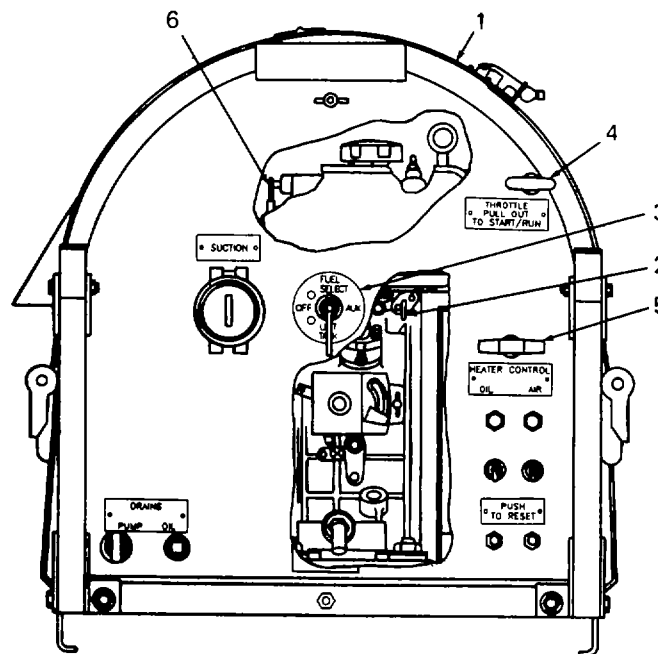

Figure 2-4. Starting Procedures
- a. *Starting.* Refer to Figure 2-4.
- (8) Hold recoil starting handle (5) firmly and pull out the handle briskly. Engine will start and go to maximum operating speed. If engine does not start on first pull, repeat steps (6), (7), and (8).
- (9) After 3 minutes, the pumping unit will start pumping liquid, or observe the discharge hose for impact.
- (10) Close access door (1).
- b. Adjusting Speed. Refer to Figure 2-4.
- (1) If necessary, adjust speed control handle (4) to desired speed and pumping rate by twisting to unlock. Twist handle to lock in speed control.
- (2) Move speed control handle (4) in to decrease speed and out to increase speed
- c. Stopping. Refer to Figure 2-4.